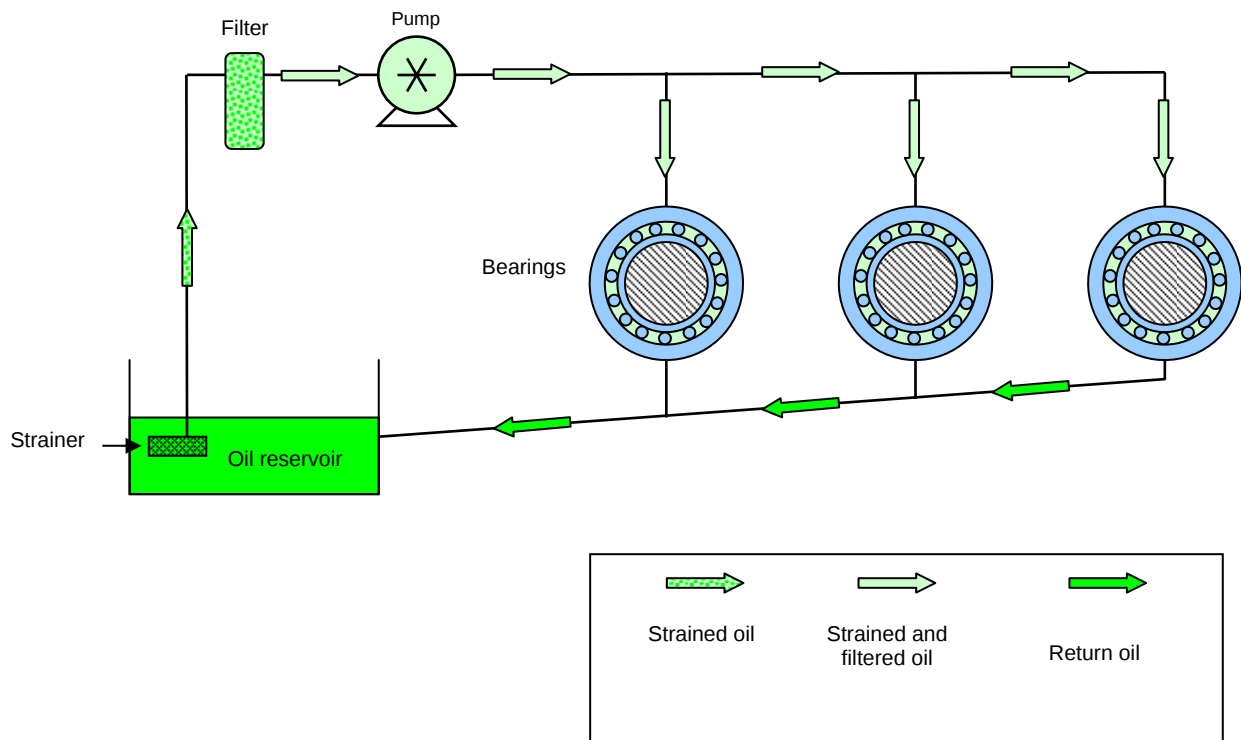

Figure 6.26: Pressure Lubrication System
- pressurised lubrication—oil is pumped from a reservoir to the bearings. It then returns to the reservoir to be re-circulated. Oil continually *flushes* through the bearings. This cools the bearings and washes out any particles of dirt. Larger dirt particles settle to the bottom of the reservoir. Strainers and filters in the system remove dirt that is carried in the oil as shown in **Figure 6.26**.